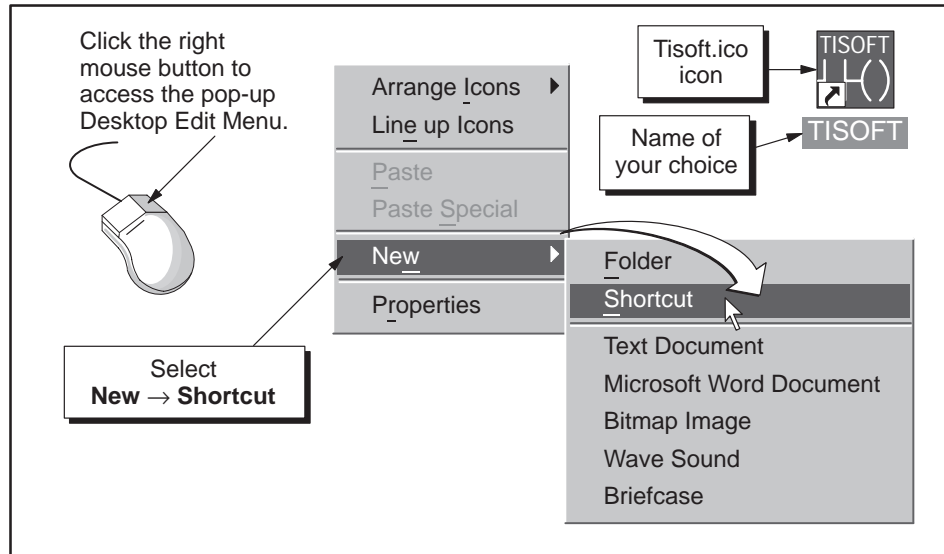

Figure 1-6 Creating a TISOFT Shortcut Icon for Your Windows Desktop
2. Select **New** → **Shortcut**, as shown in Figure 1-6. A Create Shortcut “wizard” dialog appears. This wizard guides you through the steps needed to create the shortcut icon.